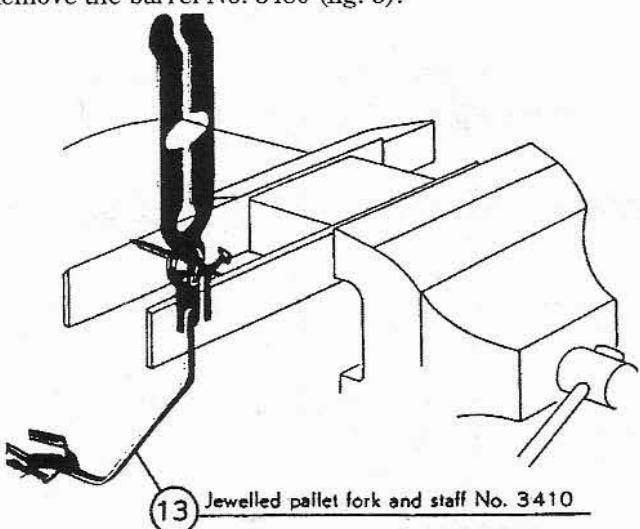

Fig. 5
- (12) Examine the train and escapement.
- (13) Check the poise of the jeweled pallet fork and staff No. 3410. It should be slightly heavy on the fork side: when it stops it should be vertical (very important, see fig. 5).
- 45 Check the action of the lever (if a correction is required, re-check its poise). (See para. No. 13, and fig. 5.)